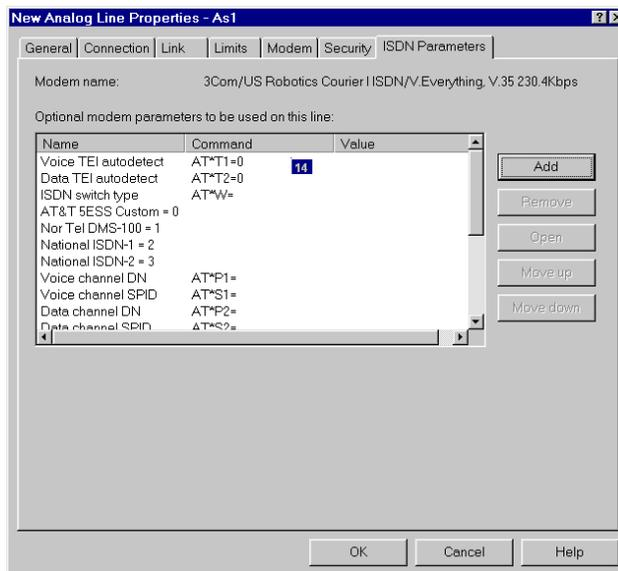

Figure 121. Setting AT commands for TA
7. Click the **ISDN Parameters** tab (Figure 121) to add AT commands for TA.